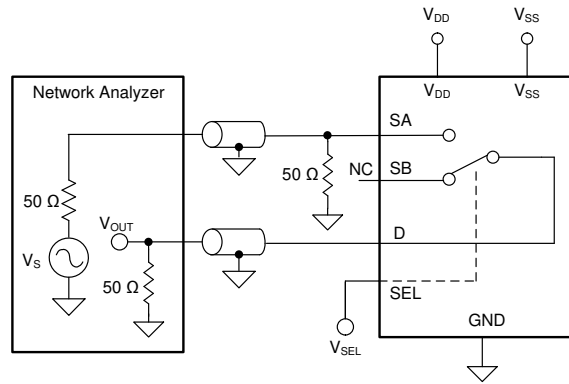

图 7-7. Off Isolation Measurement Setup
Off isolation is defined as the voltage at the drain pin (D) of the TMUX6136 when a $1-V_{RMS}$ signal is applied to the source pin (Sx) of an off-channel. 图 7-7 shows the setup used to measure off isolation. Use 方程式 2 to compute off isolation.